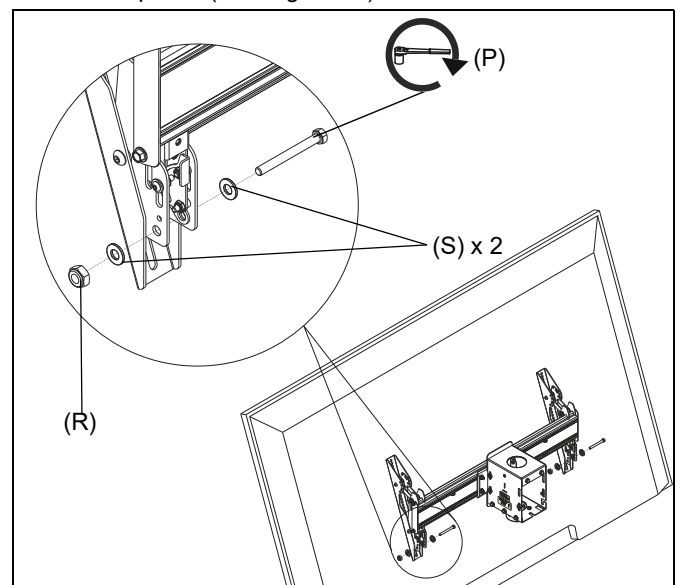

Figure 13
1. Use 5/16-18 x 2" hex head carriage bolt (P), 5/16-18 hex nut (R) and two 5/16" washers (S) to lock each interface bracket latch in place. (See Figure 13)